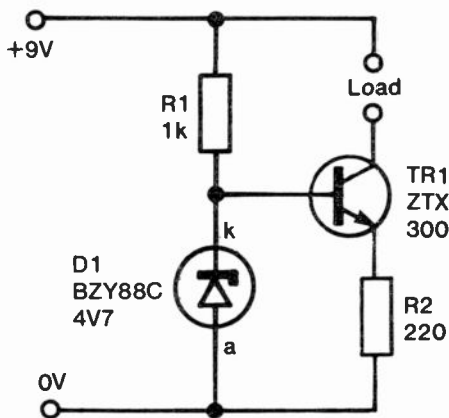

Fig. 49 Circuit diagram of Module 24.
*Circuit diagram:* see Figure 49.